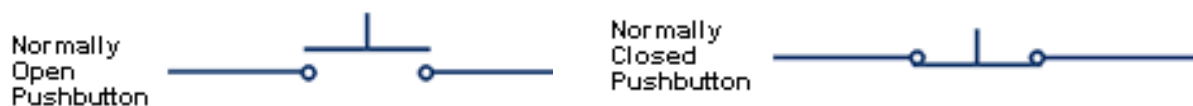

Figure 2.4: Pushbutton Symbols
A normally open (NO) pushbutton is used in the above example. When the switch is not pressed, no voltage is present at the PLC Input 1 and sets it to OFF state. When the switch is pressed, 24V DC is applied to the PLC input and sets it to ON state. A normally closed (NC) pushbutton acts opposite to the normally open (NO) pushbutton. Figure 2.4 shows the pushbutton symbols.